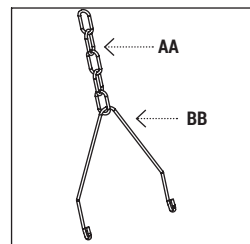

Figure 2
- Hook on the "V" hook (Part BB) across each hanging chain (Part AA). (Figure 2)